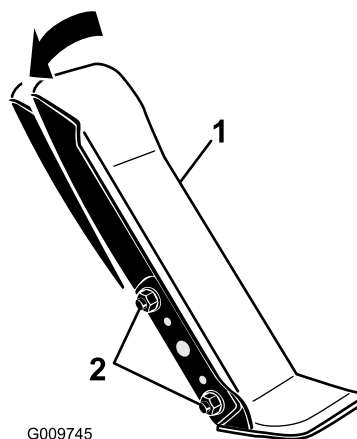

Figure 104
1. Loosen the 2 nuts and bolts securing the left side of the traction pedal to the bracket (Figure 104).
2. Pivot the pedal to the desired operating angle and tighten the nuts (Figure 104).